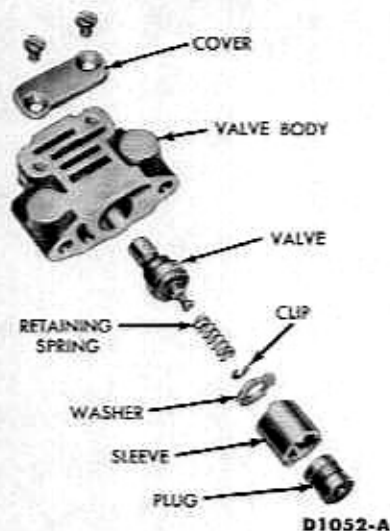

FIG. 21—Governor
2. Remove the governor valve body from the counterweight (Fig. 21).